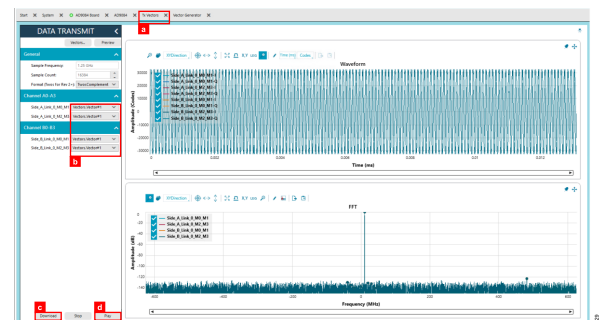

Figure 28. Downloading the Vector to the DACs
5. Take the following steps to play the Tx vectors on the DACs (see Figure 28):